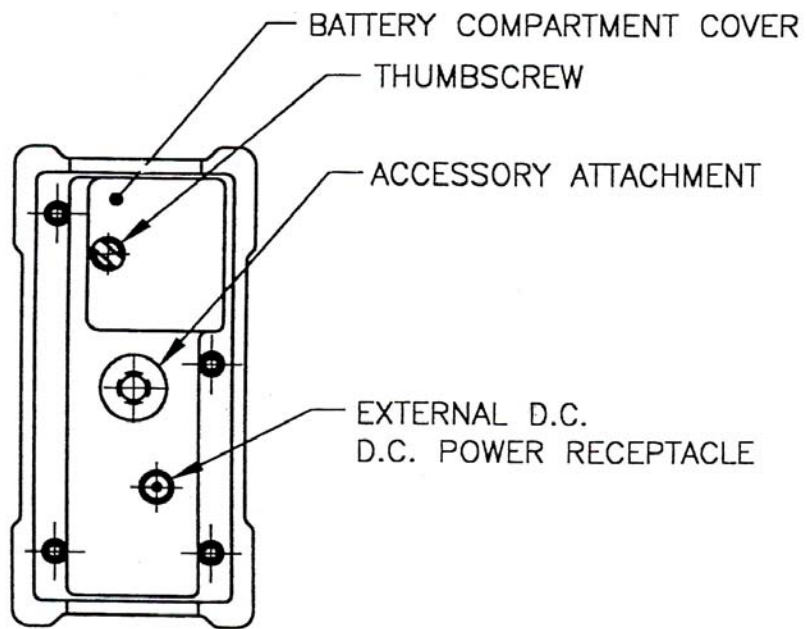

Figure 3 - BOTTOM BASE (MODEL pDR-1000AN)
- Tripod mounted. The unit can be attached to any standard tripod using the threaded bushing on the bottom of the monitor (see Figure 3).
Refer to Figures 3 (for model *pDR-1000AN*) or 4 (for model *pDR-1200*). The base of the *personalDataRAM* contains the following: a) internal battery compartment cover, b) external DC power input receptacle, and c) threaded bushing for the attachment of optional battery pack, tripod, or other mounting/support hardware.
- Loosen thumbscrew that secures the battery compartment cover (see Figure 3 or 4), and remove that cover.
A universal line voltage AC to DC power supply (model *pDR-AC*) is provided as standard accessory with the *personalDataRAM*. This power supply can be used with any line with a voltage between 100 and 240 VAC (50 to 60 Hz). When using that power supply, its output plug should be inserted into the external DC receptacle at the base of the *personalDataRAM* (see Figure 3 or 4). Insertion of that connector automatically disables the internal 9V battery of the instrument. Removal of the *pDR-AC* plug from the instrument automatically re-connects the internal 9V battery.